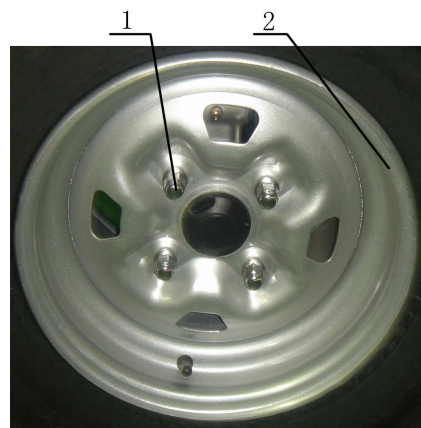

Figure 4-2-13
1.remove rear wheel components(Figure 4-2-13)
2. Check if the Wheel Hub is worn-out or damaged. (Figure 4-2-13)
(Figure 4-2-13)
4. Check the vibration of tyre/wheel hub. (Figure 4-2-13)